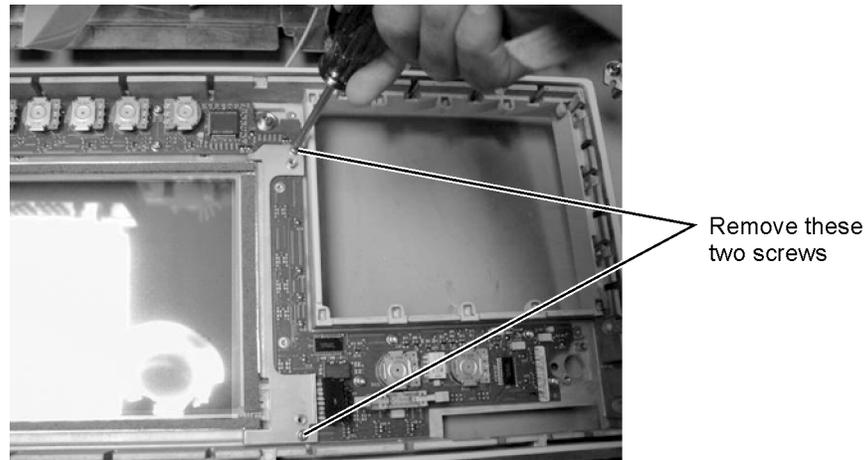

Figure 4-21. Removing the Touch Screen Screws
- 2 Using a T-10 TORX driver, remove two screws that secure the touch screen board bracket, as shown in Figure 4-21.